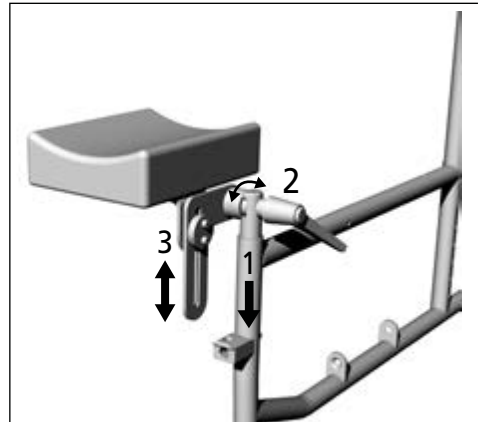

Fig.37
2. Grasp the amputation board by the cushion and insert it from above into the frame tube (1, Fig. 37).
1. Release the clamping lever counterclockwise (2, Fig. 37).
1. Loosen the two socket head screws (3, Fig. 37).